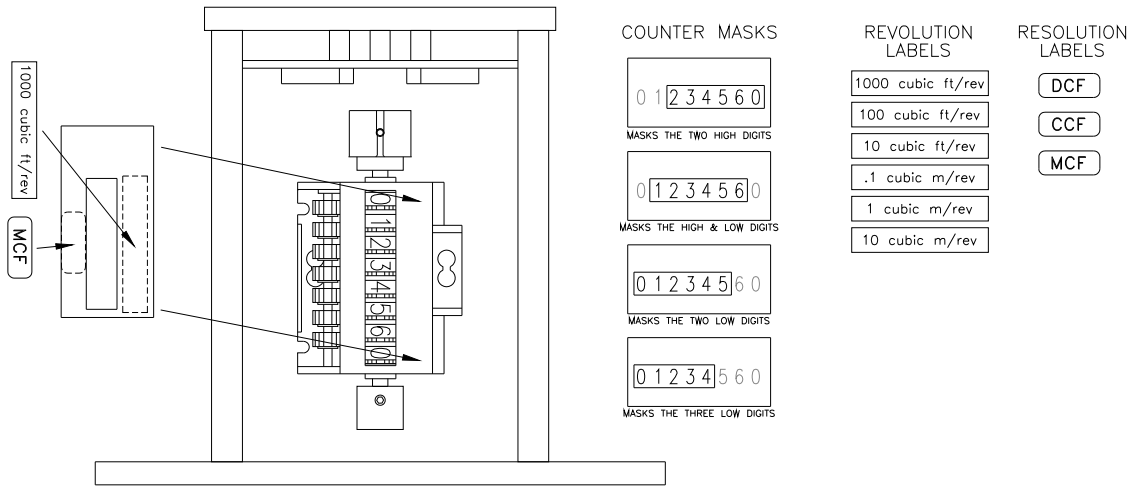

Figure 8 – Counter Masking Kit Application
3. Determine the desired reading for the mechanical index and mask the index assembly. See Table C-1, and Fig. 8 - Counter Masking, on the following pages.